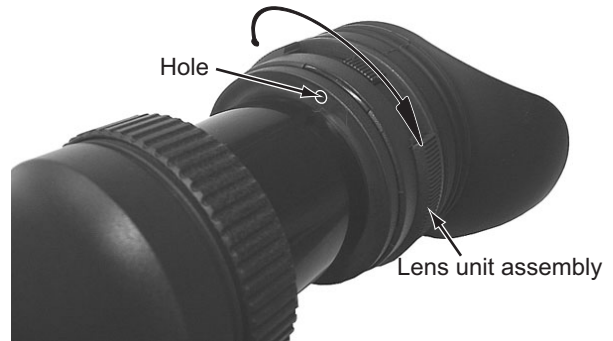

Fig.37
3.6.1 Removing the lens unit assembly (See figure 36, figure 37 and figure 38)